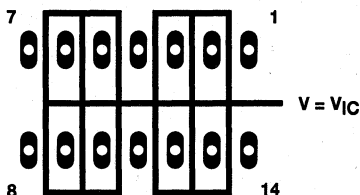
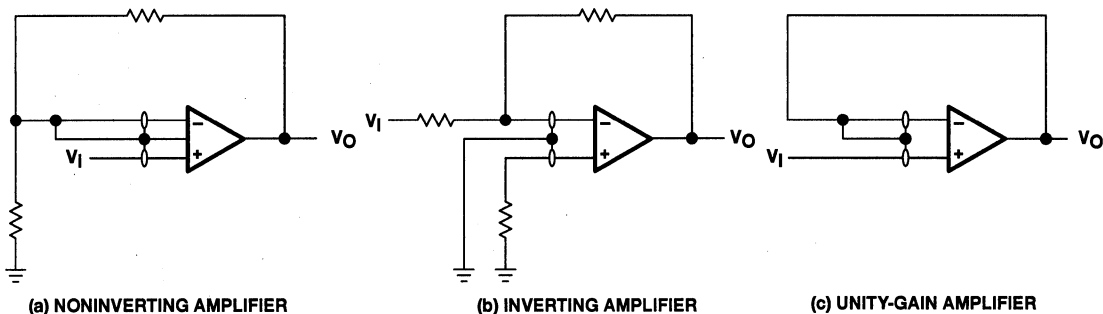

Figure 33. Isolation Metal Around Device Inputs
Figure 37. Guard-Ring Schemes
- Isolate the device from other potential leakage sources. Use a grounded shield around and between the device inputs (see Figure 33). Leakages that would otherwise flow to the inputs are shunted away.
Because of the extremely high input impedance and resulting low bias-current requirements, the TLV2344 is well suited for low-level signal processing; however, leakage currents on printed-circuit boards and sockets can easily exceed bias-current requirements and cause a degradation in device performance. It is good practice to include guard rings around inputs (similar to those of Figure 33 in the Parameter Measurement Information section). These guards should be driven from a low-impedance source at the same voltage level as the common-mode input (see Figure 37).